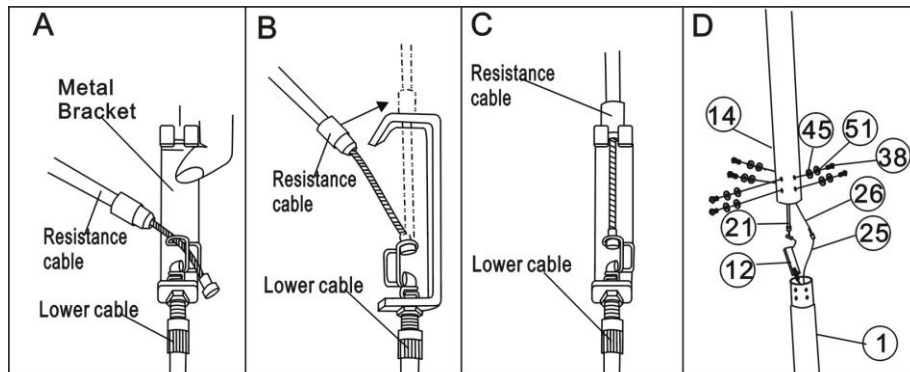

Figure 3
- On the lower position of the front upright frame (14), there is the tension control (21). Connect the joint of the tension control (21) with the tension control wire (12) firmly. < Note: at first, please turn the tension control's knob to the bottom of the "direction (in this situation, the joint of the tension control will be extended to the longest)>. Then put the end of resistance cable into the spring hook of Tension control wire (12) as shown on drawing **A** of figure 3. Pull the resistance cable up and force it into the gap of metal bracket of Tension control wire (12) as shown on drawing **B** of figure 3. Connect the resistance cable with the Tension control wire (12) completed as shown on drawing **C** of figure 3. If the upper side of the tension control wire cannot fix perfectly in the gap of metal bracket, please adjust the nut which below the bracket to the suitable position.
- Connect the Computer wire (26) to the Sensor wire 1 (25) coming out from mainframe (1) as show on drawing **D** of figure 3.
- Insert the Front upright frame (14) to the main frame (1) and secure it with six pieces of M8 x 20 Bolts (38),  $\Phi$ 8 spring washers (51), and  $\Phi$ 8 Arc washers (45) as shown on drawing **D** of figure 3.